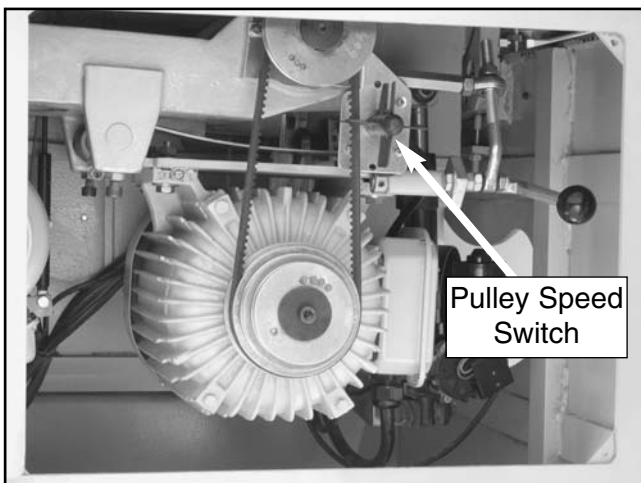

Figure 63. Pulley speed switch.
- Turn the pulley speed switch (**Figure 63**) so that the opening in the fins line up with the belt position. This switch registers the speed with the control panel.